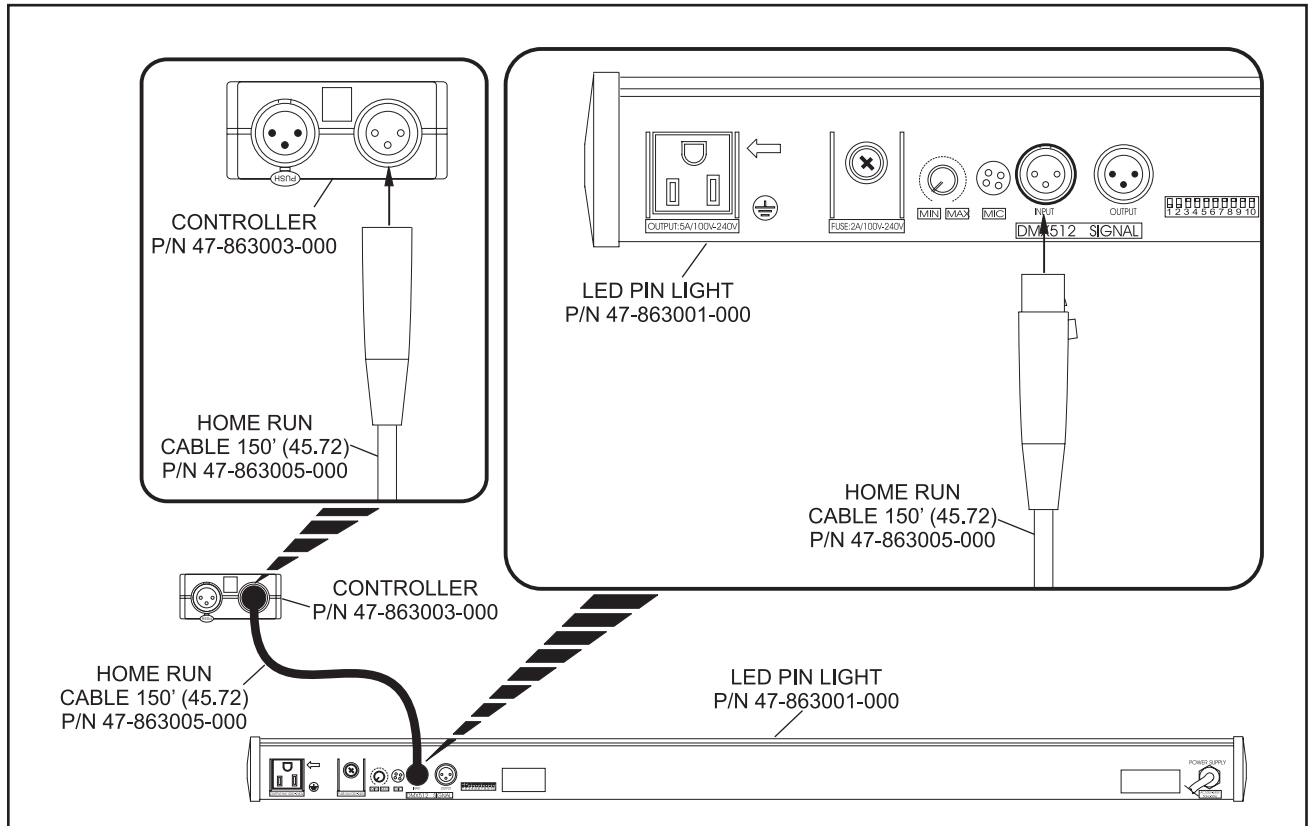

Figure 12
1. Connect the male end of the 150' (45.72 m) home run cable to the "Communication Output" port on the controller (P/N 47-863003-000). Refer to *Figure 12*.
2. Connect the female end of the home run cable to the "Communication Input" port on the first LED pin light. Refer to *Figure 12*.